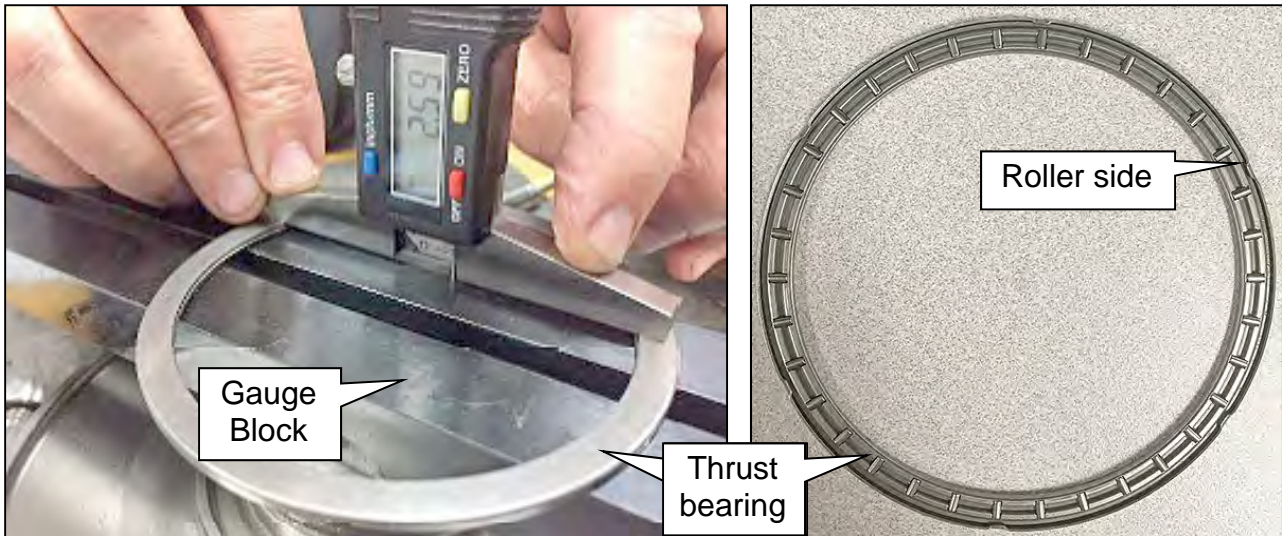

Figure 147
- a. Place the thrust bearing roller side down on the Gauge Block (Figure 147).